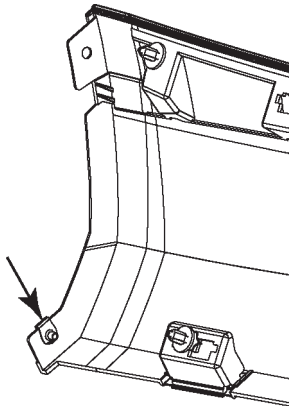

FIGURE 22A
6. Remove 2 U nuts from original cladding (1 front and 1 rear). Keep for use in step 7-8. Refer to figure 22a & 22b.